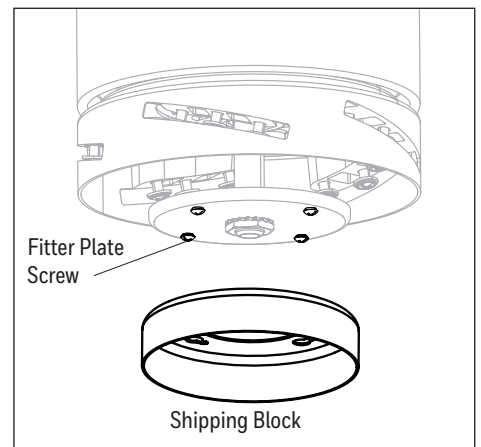

Figure 4.3
3. Loosen the four fitter plate screws preassembled to the fitter plate. Then, turn the orange shipping block counterclockwise and remove. Discard the shipping block (Figure 4.3).